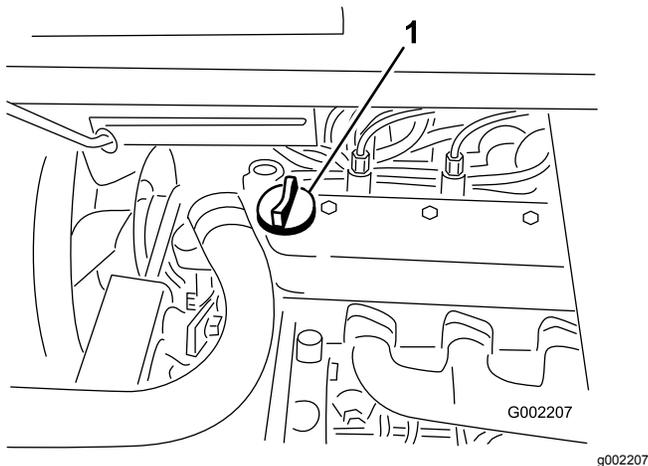

Figure 19
- If the oil level is low, remove the filler cap from the valve cover (Figure 19) and pour oil into the opening until the oil level is up to the Full mark on the dipstick; refer to Servicing the Engine Oil (page 37) for the proper oil type and viscosity.